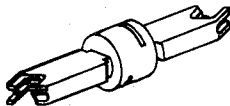

Fig. 10—♦Blades for Use With D Impact Tool♦
3.08 Three blades are currently being introduced with the D impact tool (Fig. 10). Each blade has a solid barrel located in the midportion of the blade. The barrel is grooved to fit the spring pin lock of the handle.